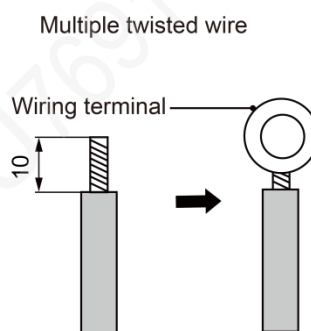

Fig.5.1.2
(2) The connection of stranded wire (as shown in Fig.5.1.2)